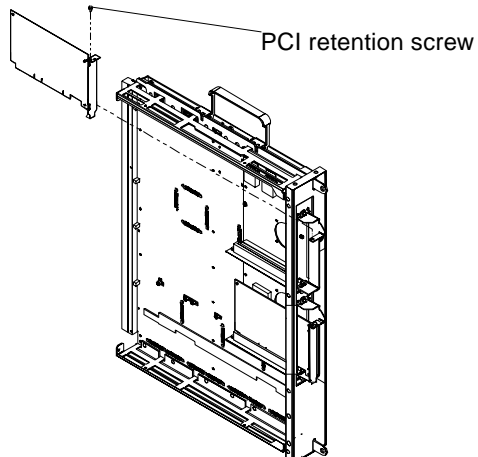

FIGURE 2-5 PCI Card
2. Remove the PCI retention screw from the top flange of the PCI card, then disengage the card from the riser card and remove it from the system board assembly (FIGURE 2-5).
11. **Guide the PCI card from behind the system board face plate, through the opening, and place the PCI card edge into the mating connector (FIGURE 2-5).**